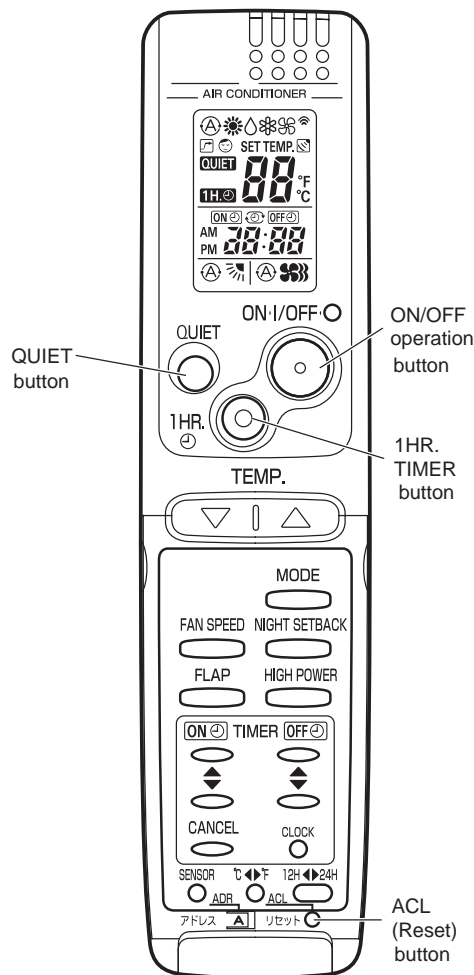

Fig. 8a
- (1) Set the remote controller in Test Run mode. (Fig. 8a)
- (2) Start Cooling mode test run by pressing the ON/OFF operation button of the remote controller. (Fig. 8a)
- (3) Press the ON/OFF operation button of the remote controller again to stop the test run. (Fig. 8a)
- (4) Finally press the ACL (reset) button of the remote controller to release it from Test Run mode to return to normal mode. (Fig. 8a)